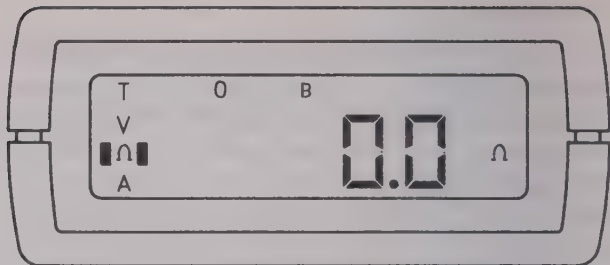

Figure 3-4. Ohms Zero Indicator
3. The meter reading will change to 0.0 ohms and the ohms zero indicator (0) on the LCD will appear. Simultaneously, the meter will verbally announce, "zero ohms". The test leads must remain shorted together until the ohms zero indicator disappears from the display. This function is shown in Figure 3-4.